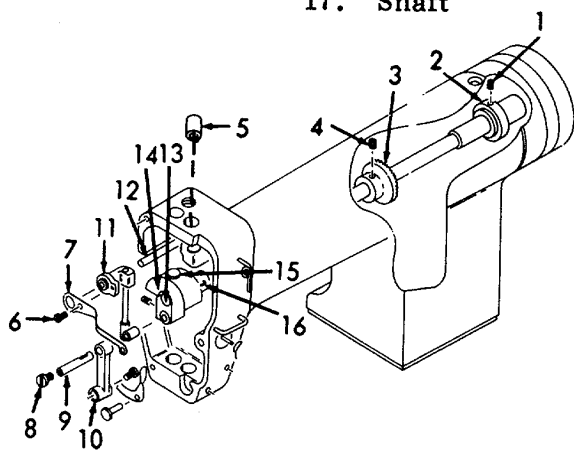

Figure 6-115. Upper Shaft Assembly, Installation.
- (1) Inspect hardware for damage.
- (2) Inspect top shaft rear bushing for damage.
- (3) Inspect top shaft gear for damage.
- (4) Inspect take-up lever and fulcrum for damage.
- (5) Inspect crank stud, crank, and needle bar link for damage.
- (6) Inspect upper shaft for damage.
e. Installation (Refer to Figure 6-115).